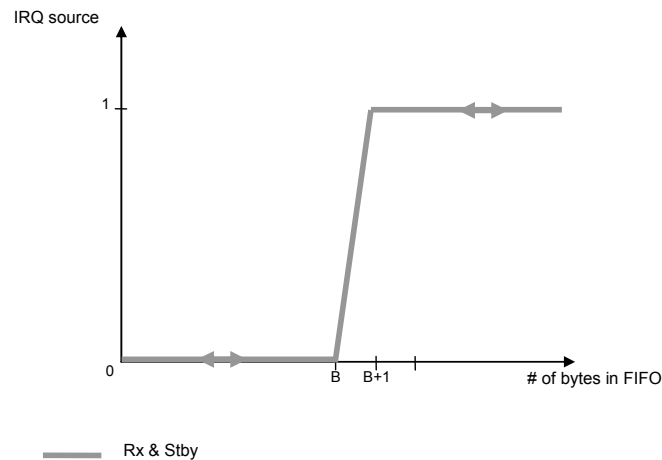

Figure 25: FIFO Threshold IRQ Source Behavior
- Fifo_threshold: Fifo_threshold interrupt source's behavior can be programmed via MCPParam_Fifo_thresh (B value). This behavior is illustrated in Figure 25.